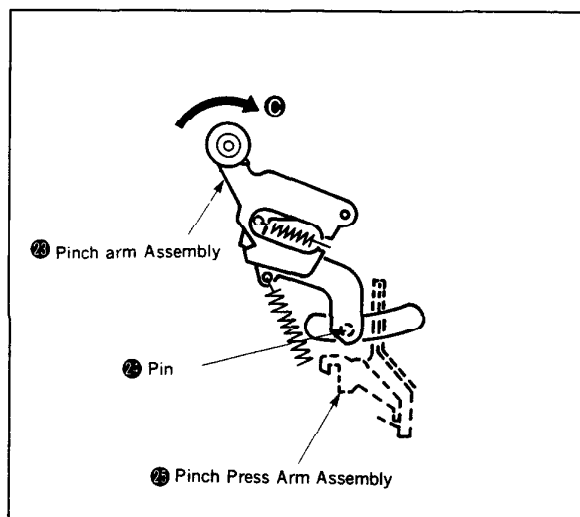

Fig. 19
- 1) As shown in Fig. A, apply Molyton grease to the arrow-indicated part of the LS chassis assembly ⑦.
- 2) Unload in the RDY mode. Start docking in the **Q, REW** mode after first GL. When docking the mechanical chassis and LS chassis assembly ⑦, it is necessary to place the following parts at specified positions.
- 3) Put the pin ② of the pinch arm assembly ② into the left side of the pinch press arm assembly ②. (Fig.19)